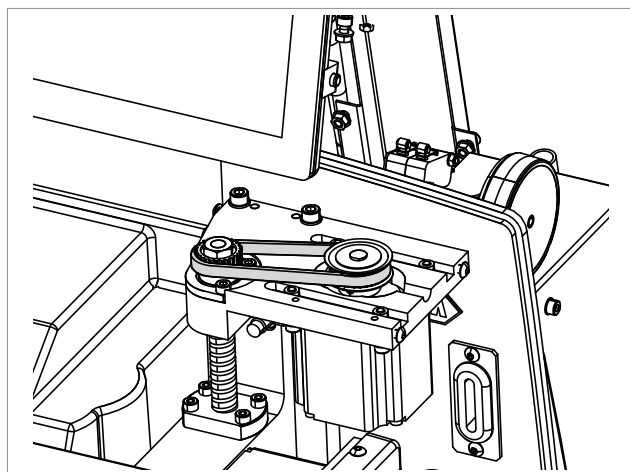

Fig. 98
- 6) Remove the worn or broken belt (Fig. 98).